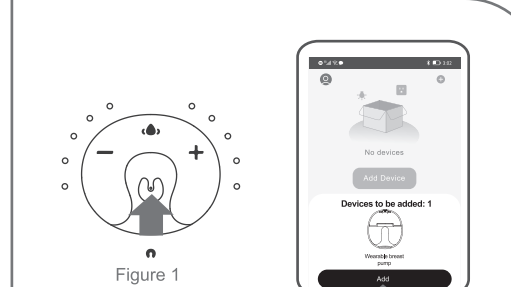
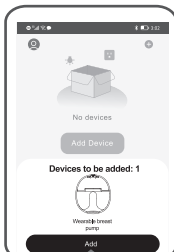

Figure 1
Figure 2
2. Long press " " icon button to turn on the device, when Figure 2 appears, it means TUYA smart APP has detected the device; when it keeps showing Figure 3, please click "Add Device" to find the device automatically. When the device is searched, Figure 4 will appear click "Add" to enter the Bluetooth connection.
3. When the cell phone appears in Figure 1, it means that the device and TUYA smart APP Bluetooth connection is successful, click "Done" will enter Figure 2 interface, at this time, you can operate the cell phone screen interface to control the function of the breast pump.